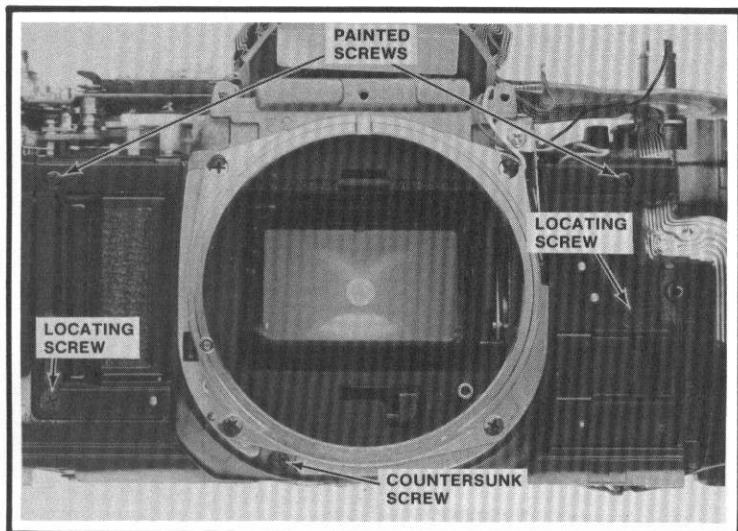

Figure 41
12. Remove the 5 front-plate screws, Fig. 41. Note that 2 of the screws have locating shoulders. Remove the locating screws last (because they're likely to be very tight with the other screws in place). Replace the locating screws first.